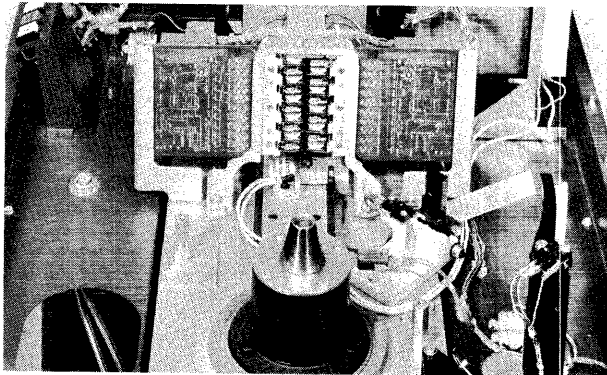

Figure 4-12. Exposed Deckplate W/O Shroud
- b. Check spindle surface for dirt and wear. Clean spindle surface with alcohol (see Figure 4-12).